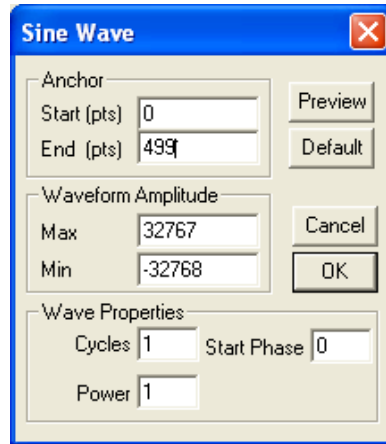

Figure 3-40: Anchor Placement
- 2) You can also place your anchors in a more precise manner from the waveform library by programming the start and end points for the waveform. An example of anchor placement using the sine dialog box is shown in Figure 3-40.